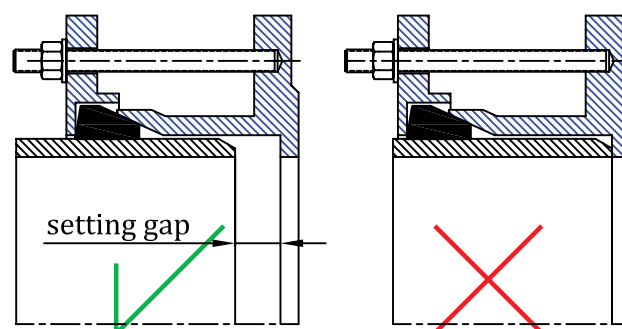

Fig.1
- 5 Place the flange adaptor onto pipe end. Adjust the setting gap between pipe end and flange adaptor as necessary (see setting gap table 1). Ensure that the pipe end is concentric with the bore of the mating flange. (See fig. 1)